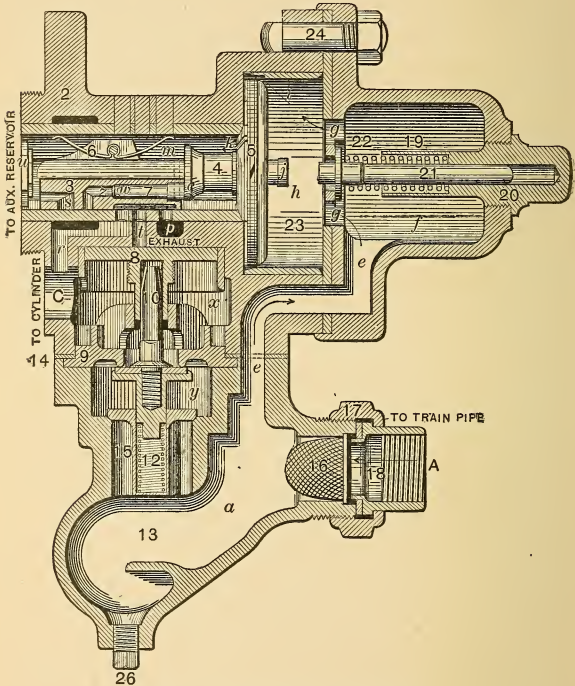
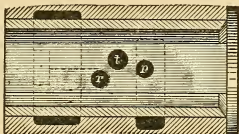
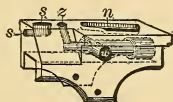

FIG. 2.—QUICK-ACTION TRIPLE.
FIG. 3.—QUICK-ACTION TRIPLE SLIDE VALVE BUSHING.
FIG. 3A.—QUICK-ACTION TRIPLE SLIDE VALVE.
A. The strainer 16 (Fig. 2). The additional port *s* in the slide valve and the removed corner of the slide valve shown in Fig. 3A. 8 is the emergency piston. 10 is the emergency or, as it is more commonly called, the rubber-seated valve. 15 is called the train-line check, also the emergency check.
*Q. What is done when the rubber-seated or emergency valve 10 (Fig. 2) is forced from its seat?*
A. A quick train-line reduction causes the auxiliary pressure to force the triple piston out the full length of chamber *h* (Fig. 2), the graduating spring 22 being compressed on account of its inability to withstand the sudden blow from the triple piston.
With the triple piston in the extreme position to the right, or that of emergency, port *s* of the slide valve is in front of port *r*, thus establishing a connection between the auxiliary and brake cylinder. At the same time the removed corner of the slide valve, shown in Fig. 3A, is in front of port *t* leading to the top of the emergency piston 8. The auxiliary pressure forcing piston 8 down unseats the emergency valve 10. This valve being unseated allows all pressure to escape from cavity *y*. With no pressure in cavity *y* to hold the train-line check to its seat, the train-line pressure under the check raises it and passes into cavity *y*, over seat of valve 10 to cavity *x* and out at *C* into the brake cylinder; at the same time the auxiliary pressure is entering the cylinder through port *r*. As soon as the pressures equalize, piston 8, valve 10, and check 15 go to their normal positions.
*Q. Of what use are Figs. 3 and 3A?*
A. Fig. 3A gives a better idea of the location of the ports in the slide valve; Fig. 3, the location of the ports in the bushing inside of which the slide valve works.
A. 26 (Fig. 2) is the drain plug; 16, the train-line strainer; 20, the graduating nut; 21, the graduating stem or post; 22, the graduating spring; 5, the triple piston; *j*, the piston stem; *i* and *k*, the feed ports; 6, the slide-valve spring; 3, the slide valve; 7, the graduating valve; *w*, the service or graduating port; *n*, the exhaust
rubber-seated valve; 8, the emergency piston. The exhaust port *p* leads around outside the brass bushing to the atmosphere as shown in Fig. 3 by the dotted lines.
*Q. Why is port *s* (Figs. 2 and 3A), used in emergency, made smaller than port *z*, used in service, to let auxiliary pressure into the brake cylinder?*
A. The strainer in the train line where the cross-over pipe leading to the triple joins the main train line, or the strainer 16 in the triple (Fig. 2) being filled with dirt, scale, cinders or oil. Port *i* or *k* might be plugged, the triple might be cut out, or there might be a leak in the auxiliary which let the air out as fast as it came in.
*Q. Water sometimes collects in cavity 13 (Fig. 2) of the triple. Where does it come from?*
A. A sticky triple or a broken graduating pin. (The one which fastens the graduating valve to the piston stem as shown by the dotted lines, Fig. 2.)
A. A leaky slide valve or a leaky rubber-seated valve (Fig. 2).
A. The rubber-seated valve 10 (Fig. 2) leaking will allow the pressure to leave cavity *y*. The train-line pressure then raises check 15 and passes through cavity *y* across the rubber-seated valve, through cavity *x*, ports *C* and *r*, into the exhaust cavity *n* of the slide valve and out to the atmosphere through port *p*. When the brake is applied, port *n* in the slide valve is closed to port *r*, consequently the blow stops.